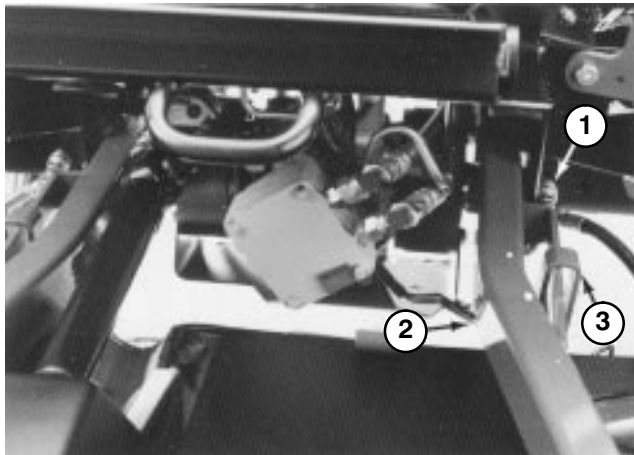

Figure 15
2. Disconnect (3) hydraulic lines (quick couplers) and wire harness at rear of deck (Fig. 15).
3. Remove hairpin cotters and H.O.C. pins securing rear deck straps to H.O.C. brackets on deck (Fig. 15).